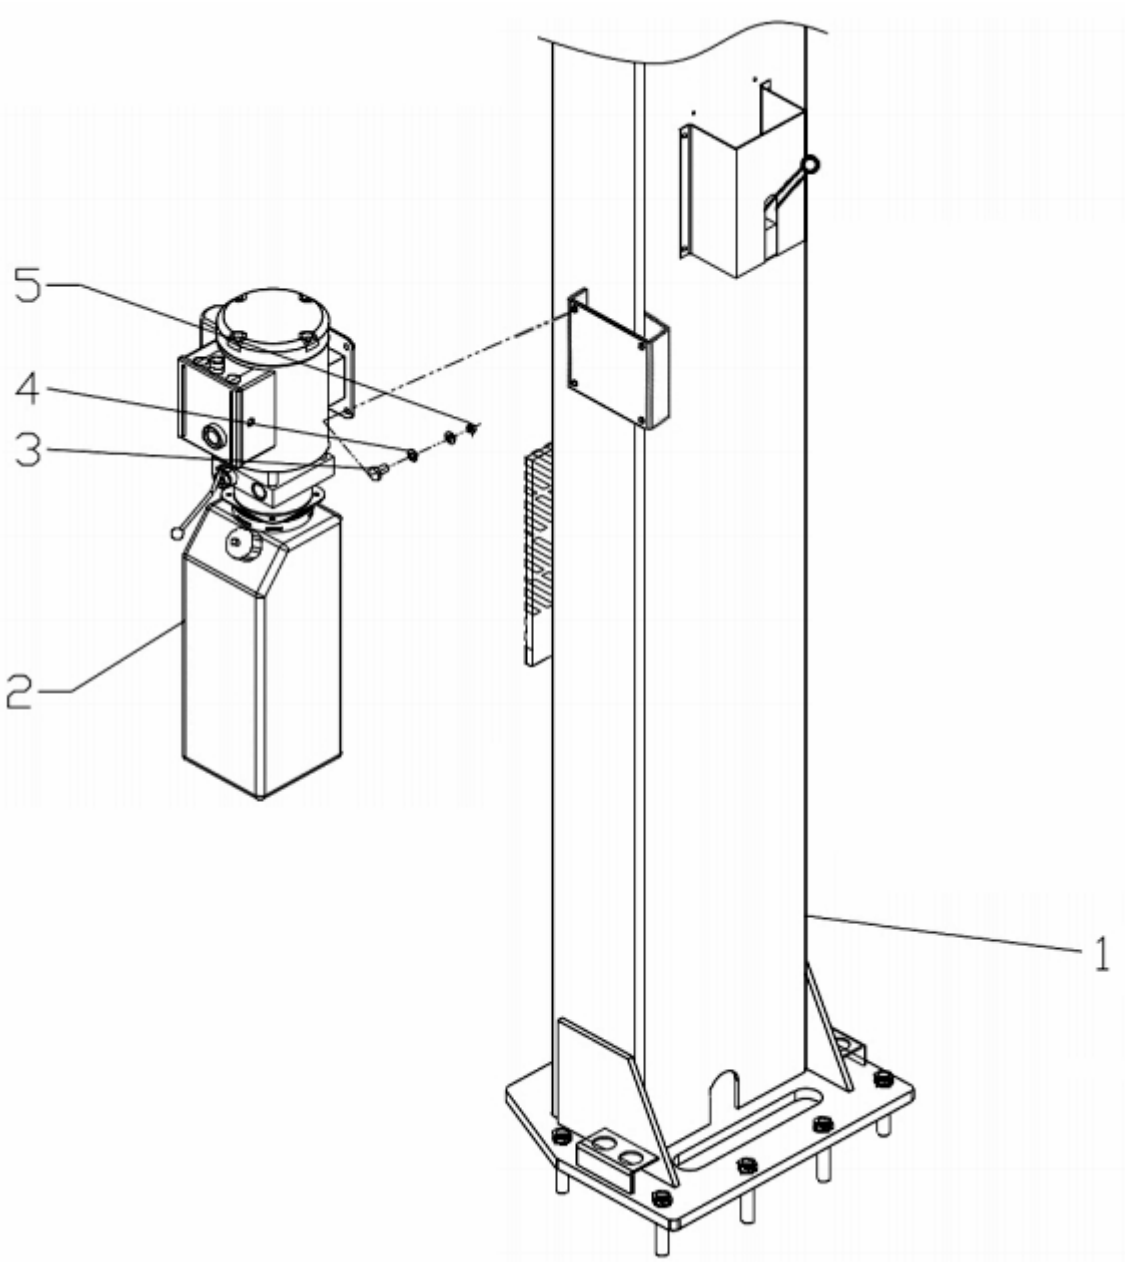

Fig. 30
M. Install power unit (See Fig. 30)